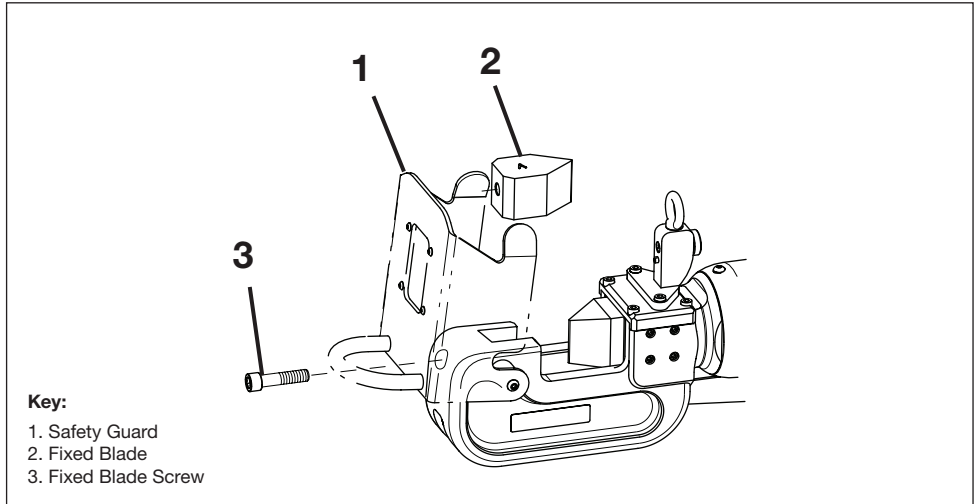

Figure 17, Fixed Blade Replacement
Replace the fixed blade as described in the following steps. Refer to Figure 17, items 1 through 3.